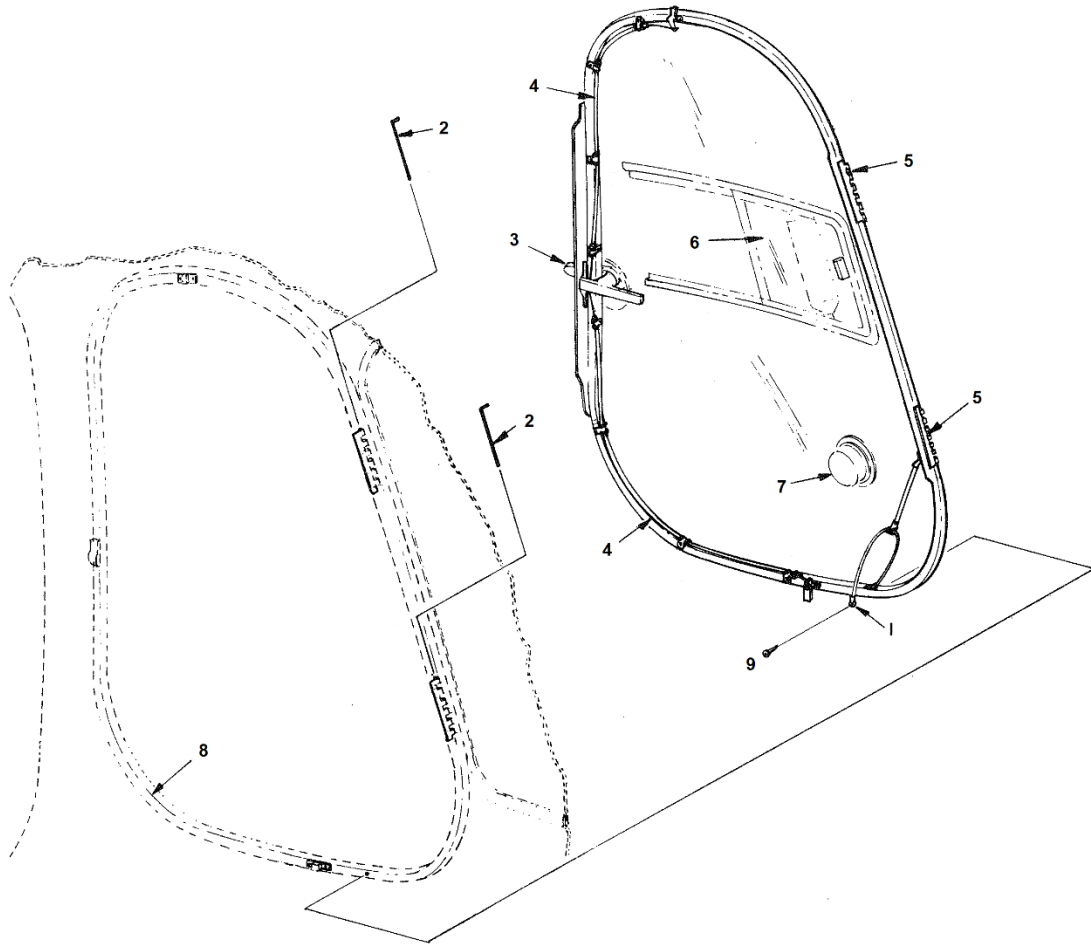

Figure 8-4. F-28F Cabin Door
A. Door Removal (F-28F) (See Figure 8-4)
1. Disconnect lower bungee (1) by removing screw (9) at the forward corner of the door frame.
2. Pull hinge pins (2) from upper and lower hinges and carefully remove door.
D. Door Installation (F-28F) (See Figure 8-4)
1. Align door to hinges and install hinge pins (2).
2. Attach lower bungee (1) or gas spring, if equipped, with screw (9) at the forward corner of the door frame.
E. Door Glass Removal (F-28F) (See Figure 8-4)
F. Door Glass Installation (F-28F) (See Figure 8-4)